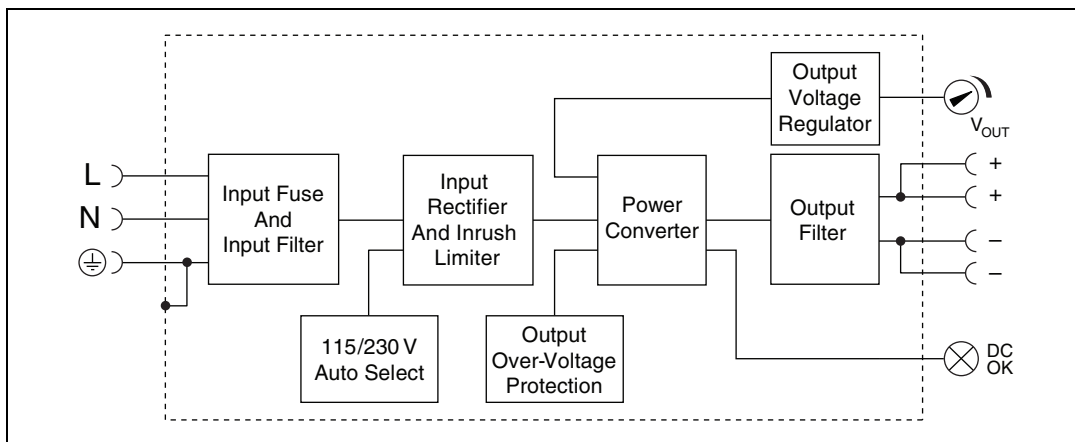
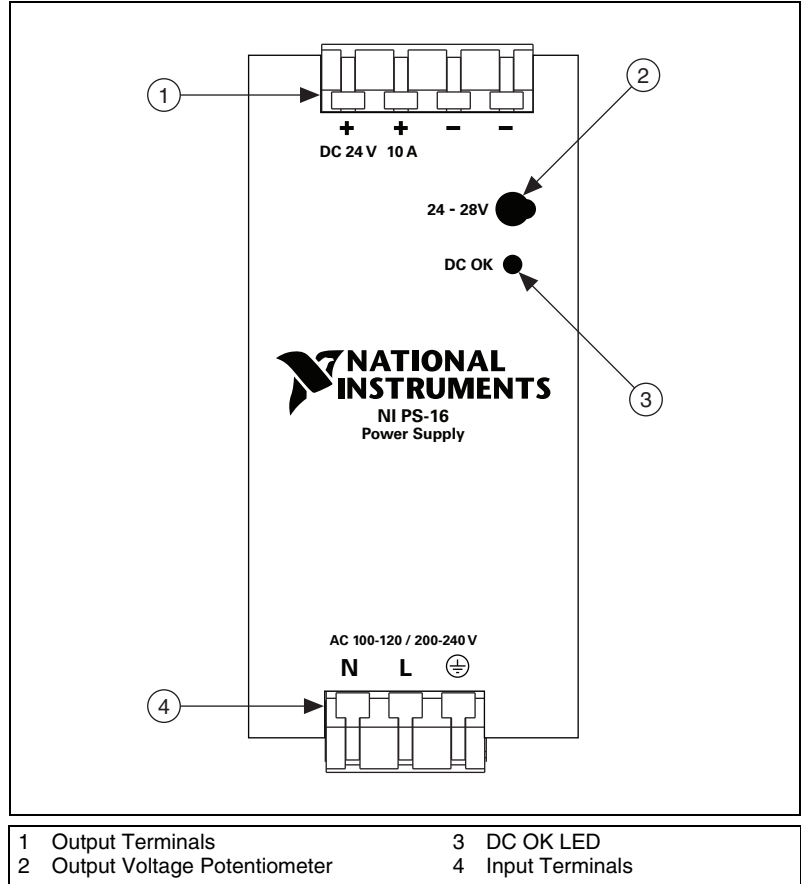

Figure 1-1. Functional Diagram for the NI PS-15 Power Supply
Figure 1-2. Front View of the NI PS-15 Power Supply
Figures 1-1 and 1-2 show the functional description and front panel features of the NI PS-15 power supply.
Figure 1-1 provides the functional diagram for the NI PS-15.
Figure 1-2 provides the front panel features of the NI PS-15.
The NI PS-15 has a total of four output terminals, providing two positive (+) output terminals and two negative (-) output terminals. Both positive terminals are wired together internally, and both negative terminals are wired together internally, as shown in Figure 1-1. The output terminals provide 24 V_{DC} with 5 A of current.
Output voltage from the NI PS-15 is set by the output voltage potentiometer, shown in Figure 1-2. The factory setting output voltage is 24.1 V \pm 0.2% (at full load when the power supply is cold), and the potentiometer allows the output voltage to be adjusted from 24–28 V on any unit. The output voltage may be adjusted above 28 V by the potentiometer, but voltages beyond 28 V are *not* guaranteed.
This green LED indicates the status of available DC power through the output terminals. If the LED is lit, DC output of greater than 21 V is available for use through the output terminals. If the LED is not lit, DC is not currently available. The DC OK LED is wired internally to the power conversion circuitry prior to the output filtering stage, as shown in Figure 1-1.
The NI PS-15 power supply derives power through the input terminals on the front panel, shown in Figure 1-2. There are three terminals corresponding to the Neutral input, the Line (or hot) input, and the Protective Earth (PE) input. The NI PS-15 rectifies both single-phase and two-phase AC input. The Neutral input terminal provides a MAINS return path for the input circuitry. The Line input is the primary power input for the supply. The PE input corresponds to an earth ground. As shown in Figure 1-1, the power supply case itself is grounded to the PE input.